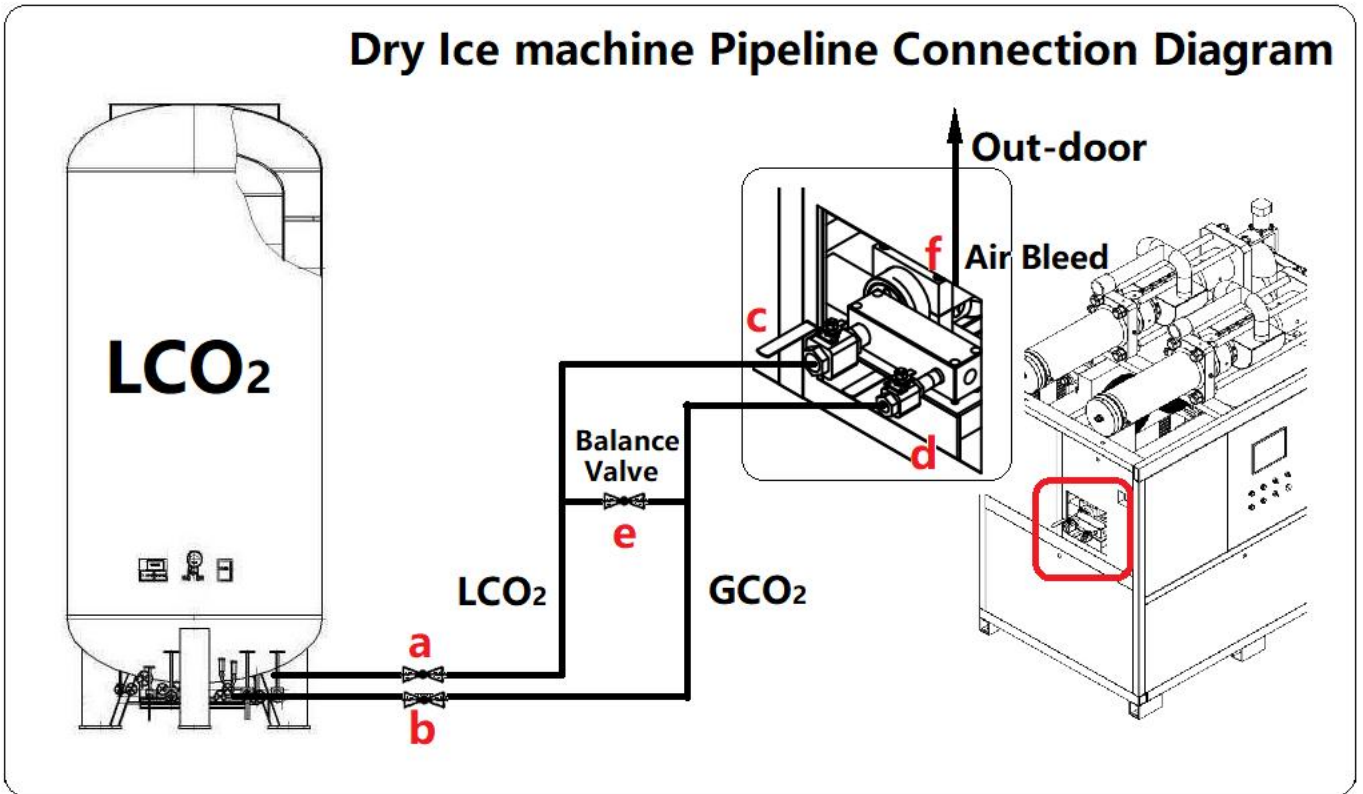

Figure 5-1 Pipeline Connection Diagram
There are three valves (Figure 5.1, #c #d #f) on the side of the machine. All valves should be OFF.
- OPEN the **VAPOR** valve (Figure 5.1, # b) installed in plant piping system to serve the equipment.
- In the machine, turn the **VAPOR & LIQUID** valves (Figure 5.1, #c #d) to the ON position. The pressure gauge is displayed.
- Open **Air BLEED** valve (Figure 5.1, #f) to release the air, and then turn the **AIR BLEED & LIQUID** valves (Figure 5.1, #f #c) OFF.
- OPEN the **Balance valve** (Figure 5.1, #e) installed in plant piping system for 3-5sec to balance the pressure, then turn the **Balance valve** (Figure 5.1, #e) OFF.
- OPEN the **Liquid valve** (Figure 5.1, #a) installed in plant piping system to serve the equipment.
Up to now, refer to Figure 5.1, check the status of the valves.
- Turn the **VAPOR** valve (Figure 5.1, #d) OFF.
- Turn the **LIQUID** valve (Figure 5.1, #c) ON
- CLOSE the **LIQUID & VAPOR** valve (Figure 5.1, #a #b) installed in plant piping system to stop serve the equipment.
- Turn the **VAPOR BLEED** (Figure 5.1, #f) valve ON until the pressure gauge back to zero.
- Turn the **LIQUID, VAPOR & VAPOR BLEED** (Figure 5.1, #c #d #f) valve OFF
Refer to Figure 5.1, check the status of the valves.
5.4.3 In the case of the pressure in the storage tank excess 2.0mPa, the cylinders may sound “BOOM” like explosion. Adjust the **LIQUID** valve (Figure 5.1, #c) close 1/3 to 1/2, until the “BOOM” stopped.